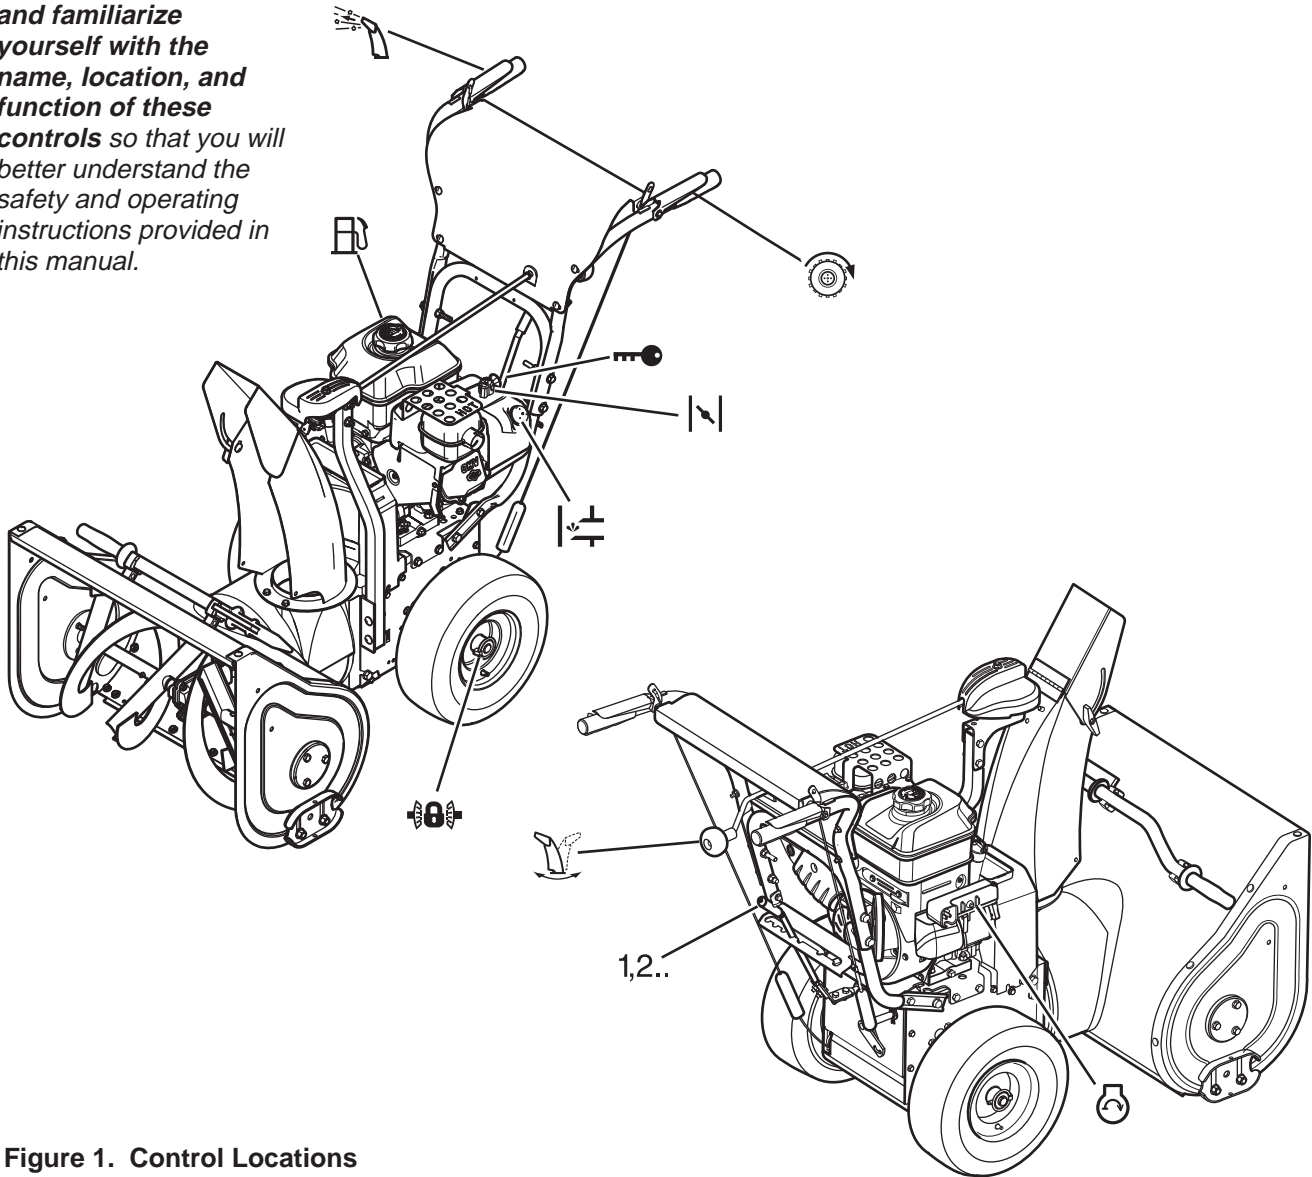

Figure 1. Control Locations
7. Check the drive control (, Figure 1), and auger control (, Figure 1) for proper operation. If adjustment is required, see the service section for procedures.
8. Check the chute direction control (, Figure 1) for proper operation. The discharge chute should rotate freely in both directions. See the service section for adjustment procedures and troubleshooting.
9. Check the chute deflector (, Figure 1) for proper operation. The deflector should pivot freely up and down when knob is loosened.
11. Check the speed selector (1, 2, .., Figure 1) for smooth operation. The control must move freely into each speed position gate and remain in position when released. If the speed selector does not move freely into all forward and reverse speed positions, contact your local authorized dealer for assistance.